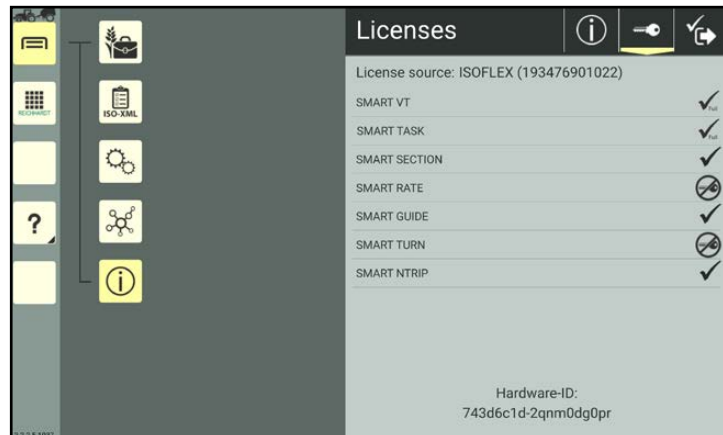

Fig. 158: SMART COMMAND licenses and hardware ID
You can see which licenses are currently active in the system information in the main menu (see Fig. 158).
- The hardware ID can be called up via the SMART COMMAND system information (see Fig. 158).
11. Open the license overview in the system information and check whether the licenses are recognized in SMART COMMAND (see Fig. 158).
9. Open the license overview in the system information and check whether the licenses are recognized in SMART COMMAND (see Fig. 158).